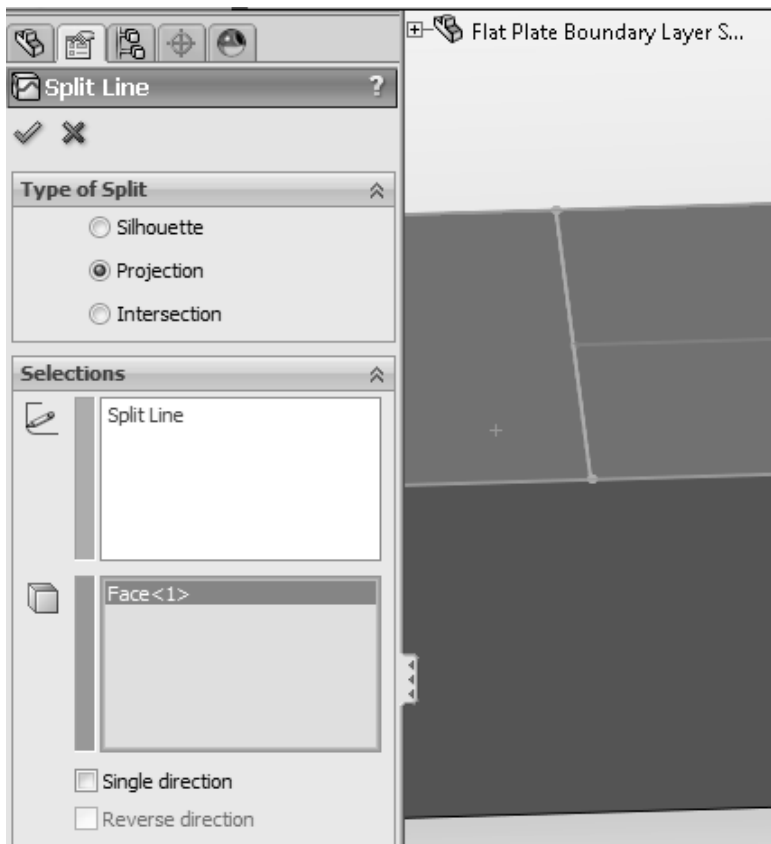

Figure 2.11b) Selection of surface for the split line
11. Rename the sketch in the **FeatureManager design tree** and call it **Split Line**. Click on the **Rebuild** symbol once again. Select **Insert>>Curve>>Split Line...** from the SolidWorks menu. Select Split Line for **Sketch to Project** under **Selections**. For **Faces to Split**, select the surface where you have drawn your split line, see figure 2.11b). Close the dialog . You have now finished the part for the flat plate boundary layer. Select **File>>Save** from the SolidWorks menu.